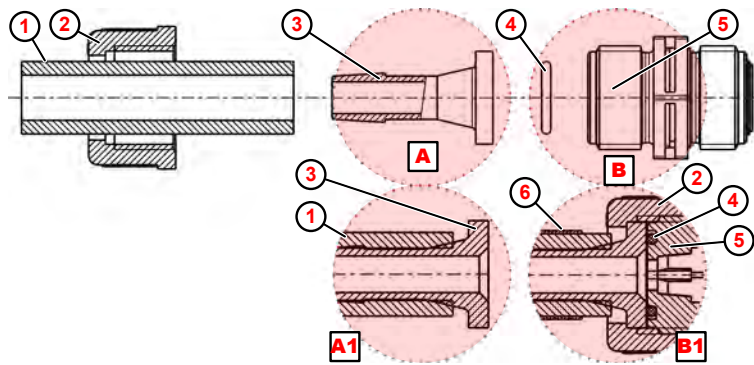

Fig. 6: Pipe and hose connection with attachment nipple and hose clamp
1. ➤ Cut off the hose with a straight cut ( Fig. 6 , ① ).
2. ➤ Slide the hose clamp ⑥ over the hose ①
3. ➤ Slide the union nut ② over the hose ① .
4. ➤ Slide the hose ① onto the attachment nipple ③ up to the stop collar (for details, Ⓐ1 ).
5. ➤ Place the o-ring ④ in the groove of the suction or pressure valve ⑤ .
6. ➤ Tighten the union nut ② .
7. ➤ Push the hose clamp ⑥ downward and tighten (for details, Ⓑ1 ).